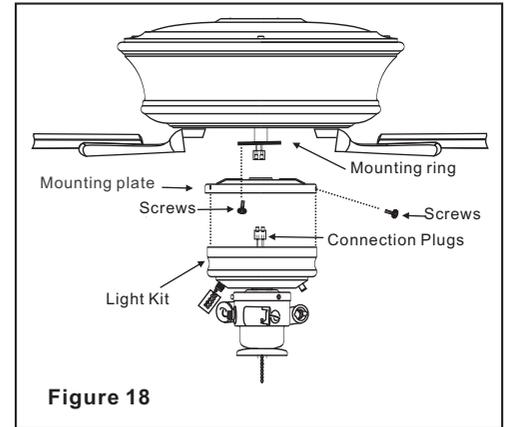

Figure 18
Step 2. Tuck connections neatly into light kit. Place the key holes on the mounting plate over the 2 screws previously loosened from the mounting ring, turn mounting plate until it locks in place at the narrow section of the key holes. Secure by tightening the 2 screws previously loosened and the one previously removed. (Figure 18)
Step 3. Connect the connectors from the light kit and fan. (Figure 18)